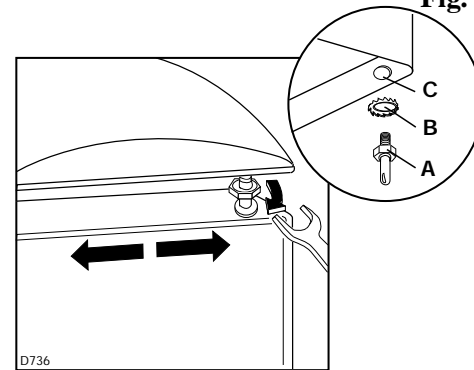

Fig. 4
Remove the door from the upper pivot (A-Fig. 4).
Remove the pivot and the washer (A+B-Fig. 4) from the upper hinge (C), then mount these on the opposite side.